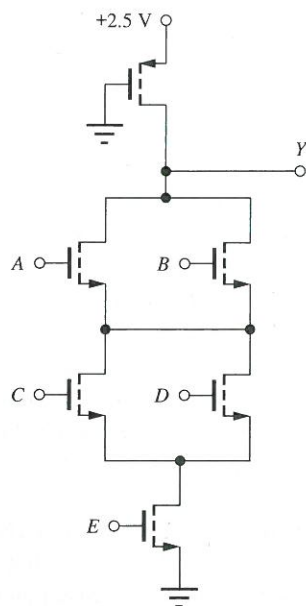

Figure P6.107
- 6.107. (a) What is the logic function that is implemented by the gate in Fig. P6.107? (b) What are the W/L
- 6.108. (a) Redraw the circuit in Fig. P6.107 using a saturated load transistor. (b) What is the logic function of the new circuit? (c) What are the W/L ratios of the transistors based upon the reference inverter design in Fig. 6.29(b)?